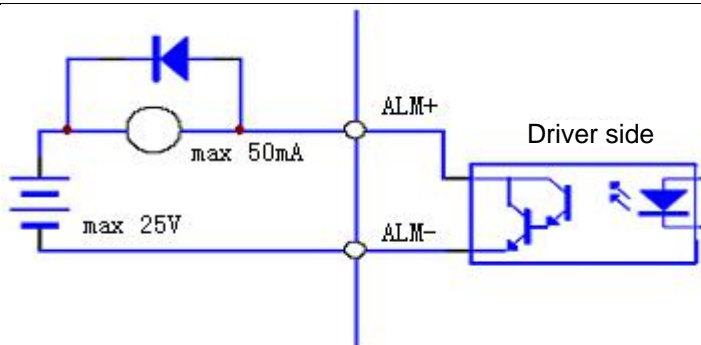

Fig. 4- 6-2b:Type2 Switching Value Output Port(Relay)
- Output is Darlington transistor, wiring with Optocoupler(fig.4- 6-2a) or Relay(fig.4- 6-2b);